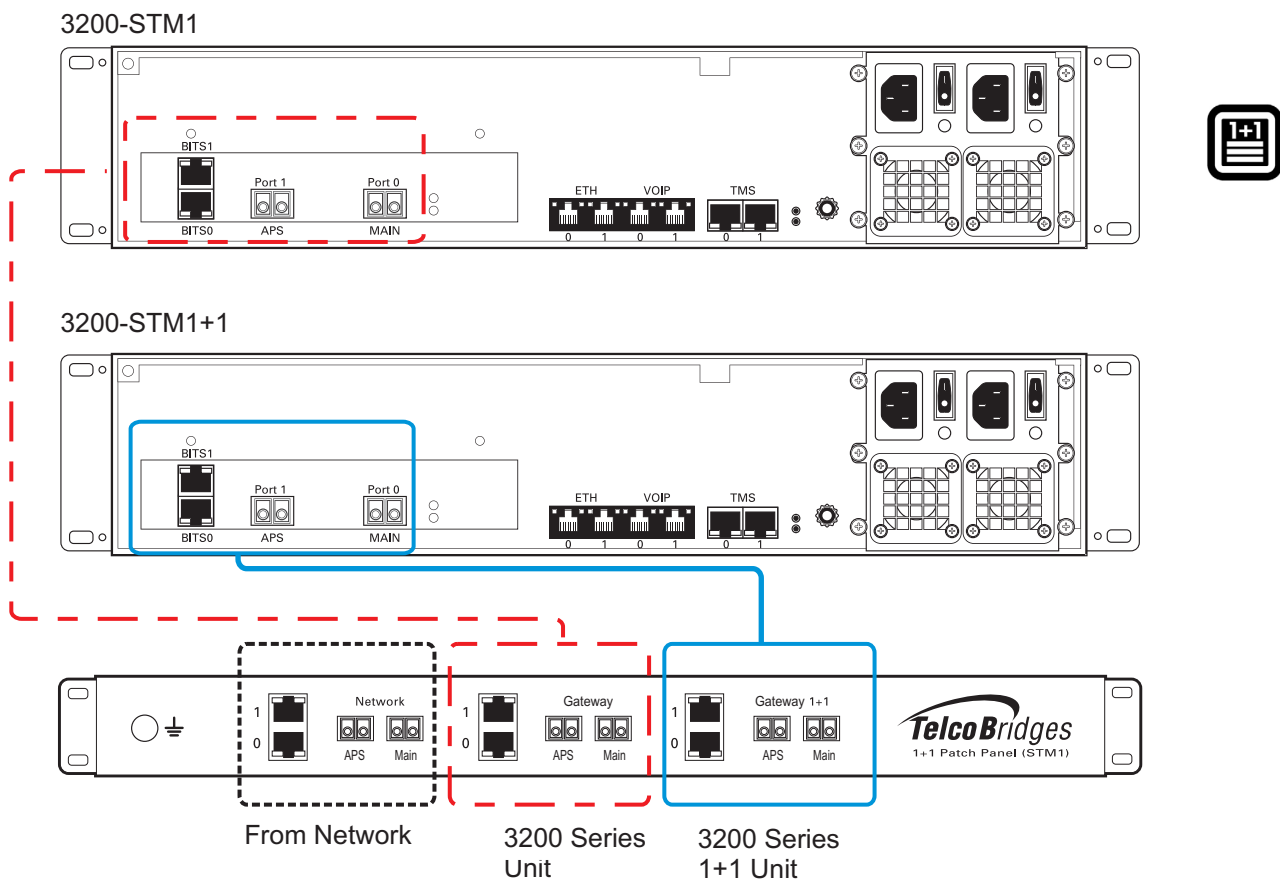

Figure 2.17 3200-STM1 and 3200-STM1 +1 connecting to the STM1 1+1 patch panel
A 3200-STM1 and 3200-STM+1, each with one main and one backup OC3 or STM1 port enables the connection to OC3/STM1 lines. See Figure 2.17 on page 41. Refer to Table 2.4 on page 40 for a listing of optical interfaces. The default SFP module for OC3/STM1 connection is SMF, intermediate reach, (SFP-OC3-IR1) 1310 nm with LC type connectors.
1. Connect each OC3/STM1 line of the network section of the 1+1 patch panel to the remote equipment. See Figure 2.17 on page 41.